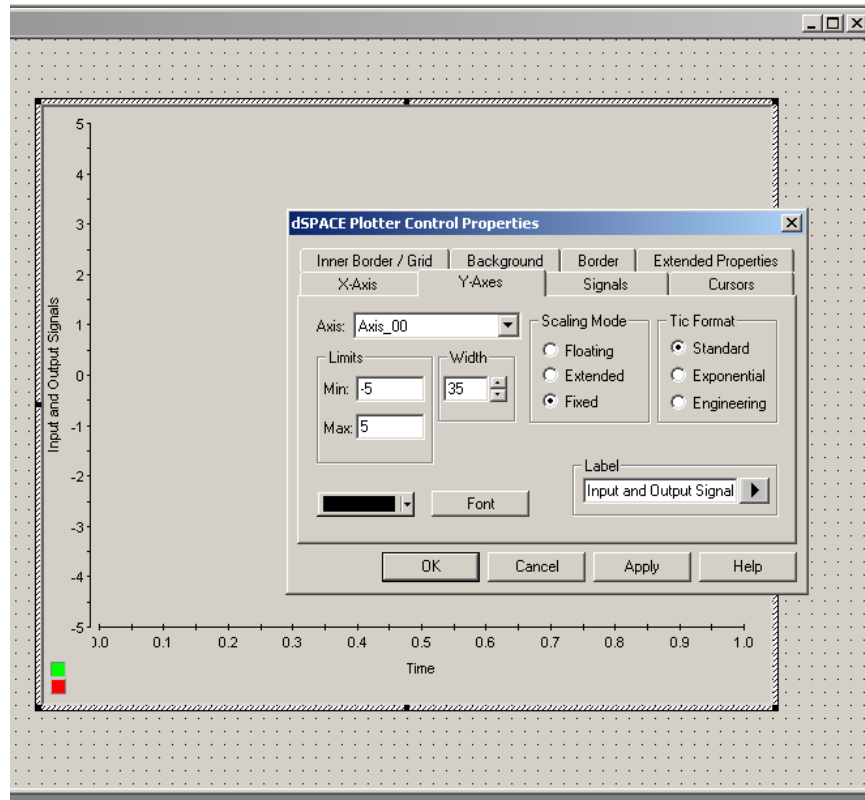

Figure 2.15: Plotter Setting Window
- Set Y-limits, Width, Scaling Mode as shown in Fig. 2.15